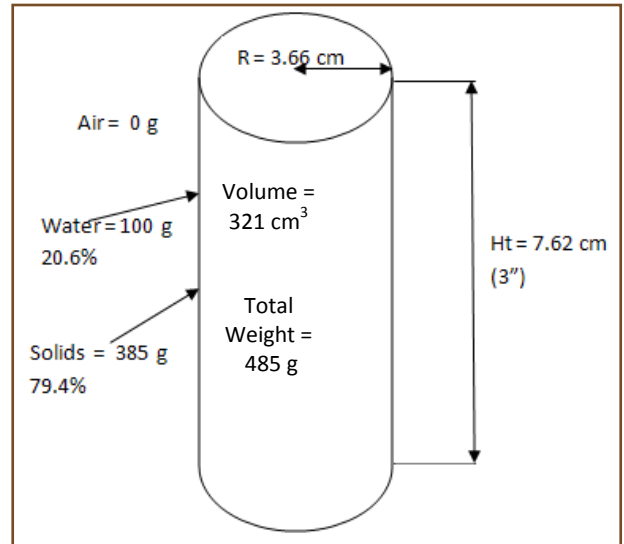

Figure 11. Soil core dimensions, volume, and weight (by component) Example 1.
*Soil bulk density = [(a - b)/(1 + h)] ÷ volume of soil core (Volume of soil core = 321 cm³ for 3" core, 2" from top of soil to top of ring, refer to Figure 11 and volume calculations below)
Volume of Soil Core (cm³) (refer to Figure 11)
Example 1 (refer to Figure 11)